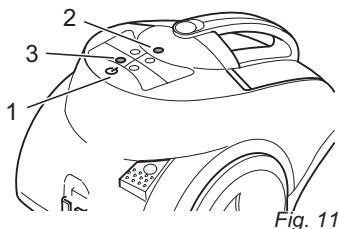

Fig. 11
7. Switch on the steam cleaner using the on/off switch (Fig. 11/1). The indicator light (Fig. 11/2) lights up.
8. The steam cleaner now heats up for approx. 30 seconds. Then the indicator light (Fig. 11/3) lights up signalling that it is ready for operation.